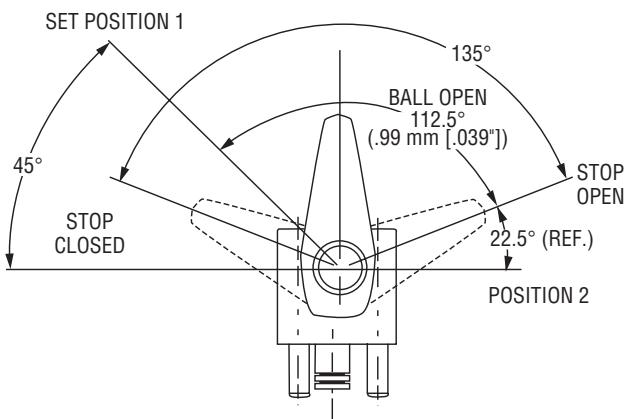

Figure A3 (8)
1. Thread in the shaft (62) until it just touches the check ball (55) (in its spring-loaded closed position).
2. Slide collar (104) on the shaft.
3. Position the handle (61) at the location "Position 1" (Figure A3), with the other surface of the handle flush with the end of the shaft. Lock in place.
4. Rotate the handle to "Position 2" (Figure A3).